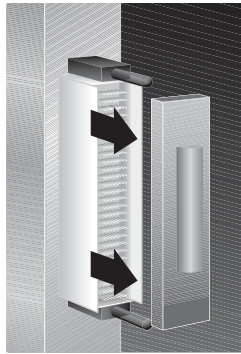

Figure 1. Removing the Pin Cover
1. Remove the pin cover from the connector pins at the back of the pass-through module, as shown in Figure 1, Removing the Pin Cover.